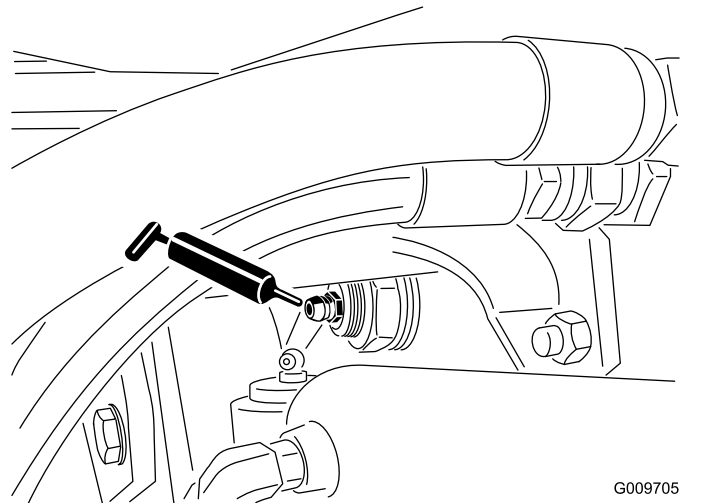

Figure 41
- Rear-axle-pivot bushings (2) as shown in Figure 41